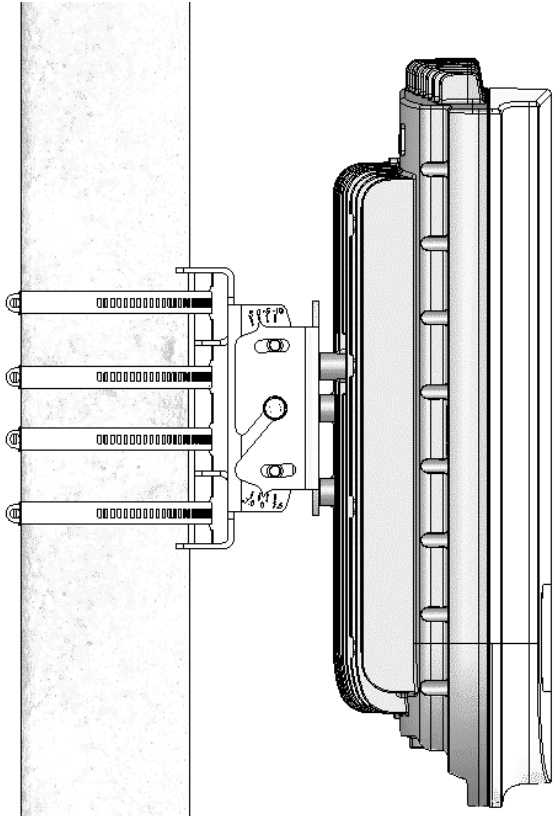

Figure 2-8: Unit Installed with Tilt Bracket
- 6 Attach and fasten all the screws at both sides of the tilt bracket (see Figure 2-8).